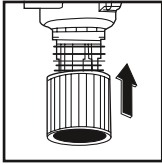

Fig. 2
3. Install the filter cartridge over the filter cage, with the flat end towards the vacuum cleaner cap. Press the filter carefully until it stops against the cap (Figs. 2 and 3)